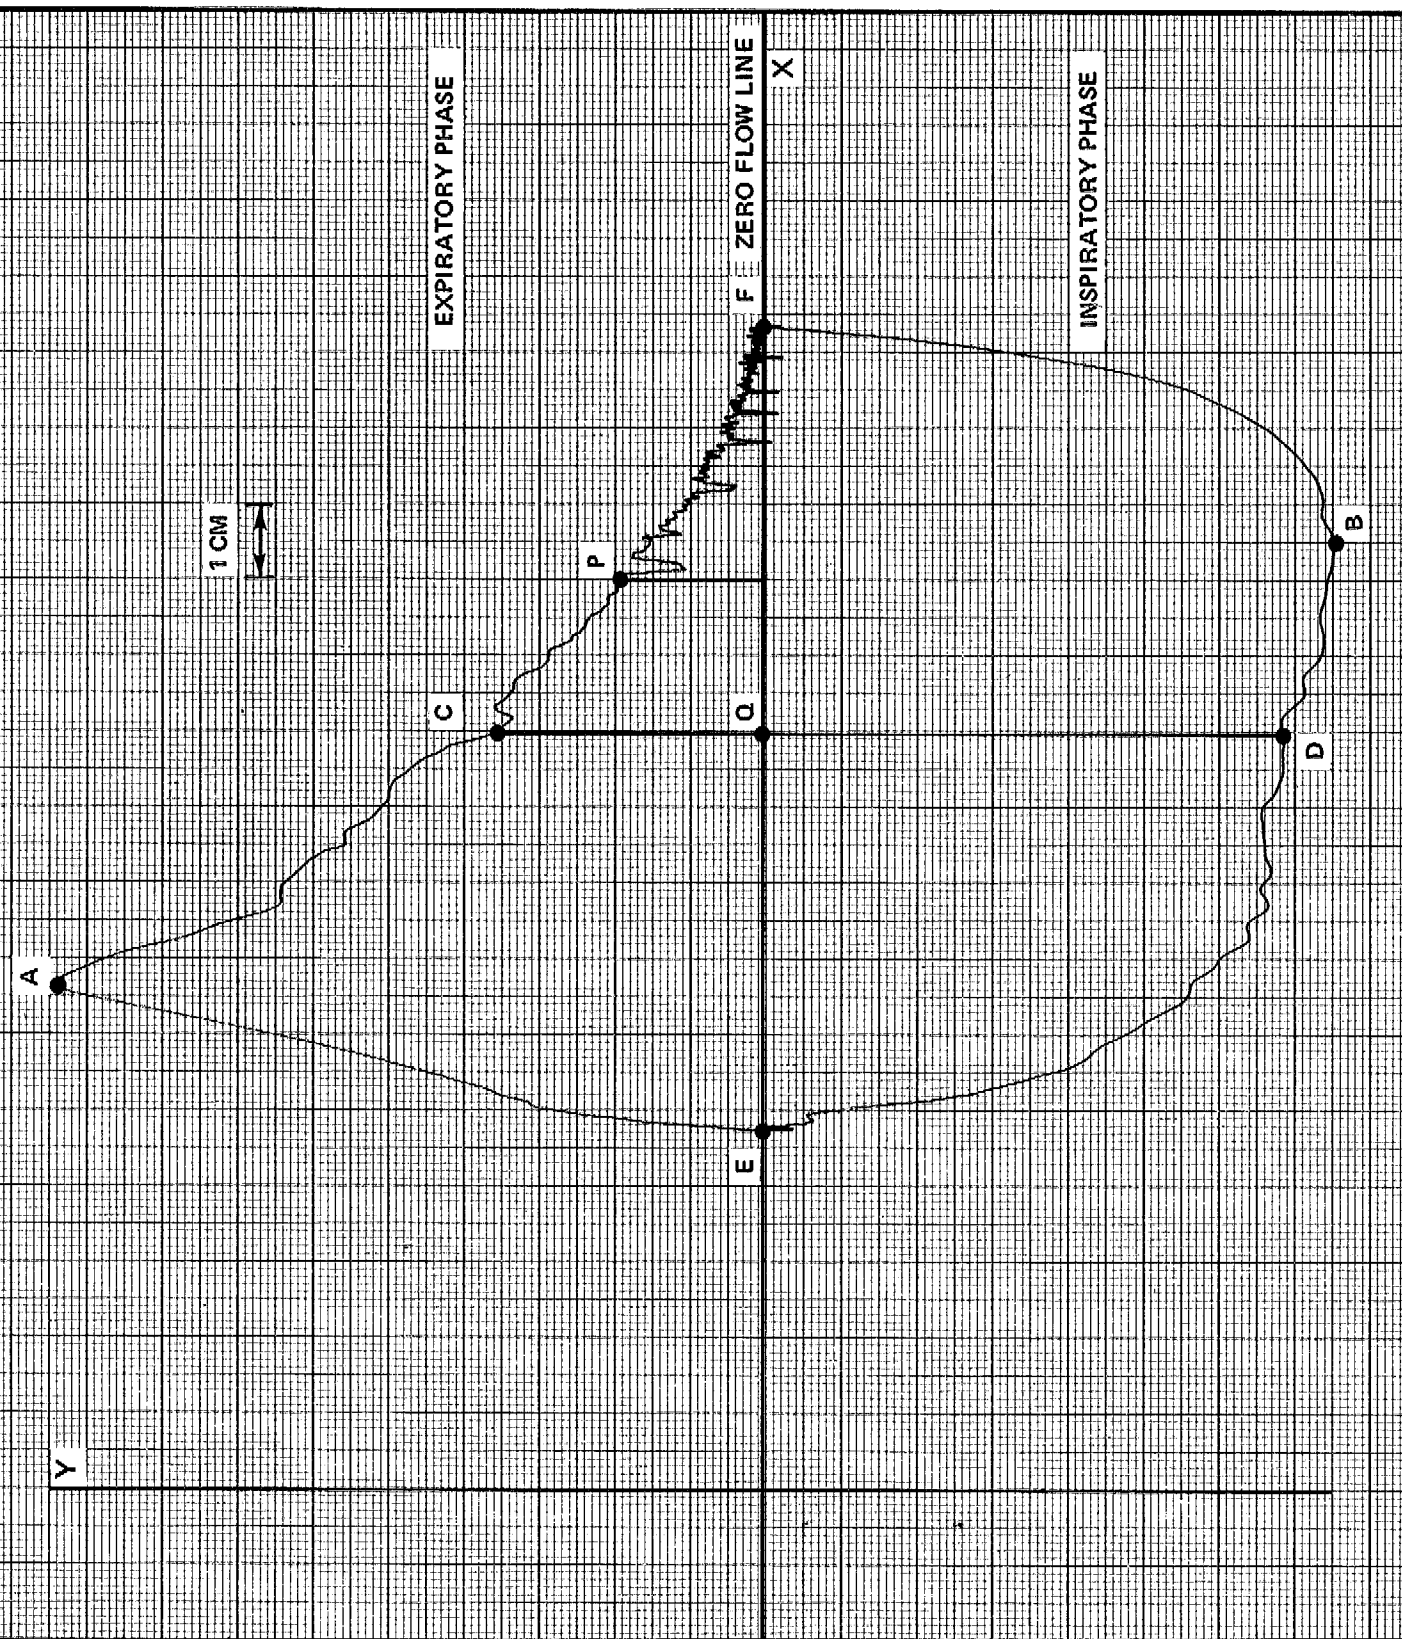

Figure 13 - Sample Flow-Volume Loop
B.5. The **X** and **Y** axis **POLARITY** switches can be set up to either **+** or **-** when a flow-volume loop is recorded depending upon the operator's preference. The sample flow-volume loop, shown in Figure 13 was recorded with both **POLARITY** switches set to **+**.
E.1. The flow-volume loop (Figure 13) consists of two main portions - the inspiratory phase and the expiratory phase which are separated by a zero flow axis. Flow rates and volumes can be determined from these two phases.